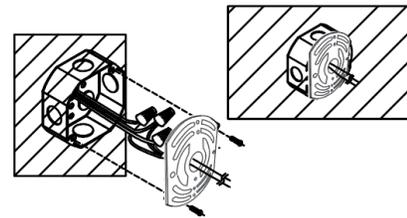

Fig. 1
3. Pull wires through junction box mounting plate then connect junction box mounting plate to the junction box with screws. (Fig. 1).